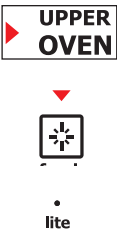

Figure 46: 2 hour lite clean
- 4. The self clean feature allows you to choose one of three time options. Press **lite** for a 2-hour clean (Figure 46); or